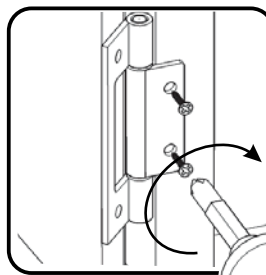

Figure 7
Attach Doors (U) and (V) to base unit with Wood Screws for Hinges. (See Figure 7)